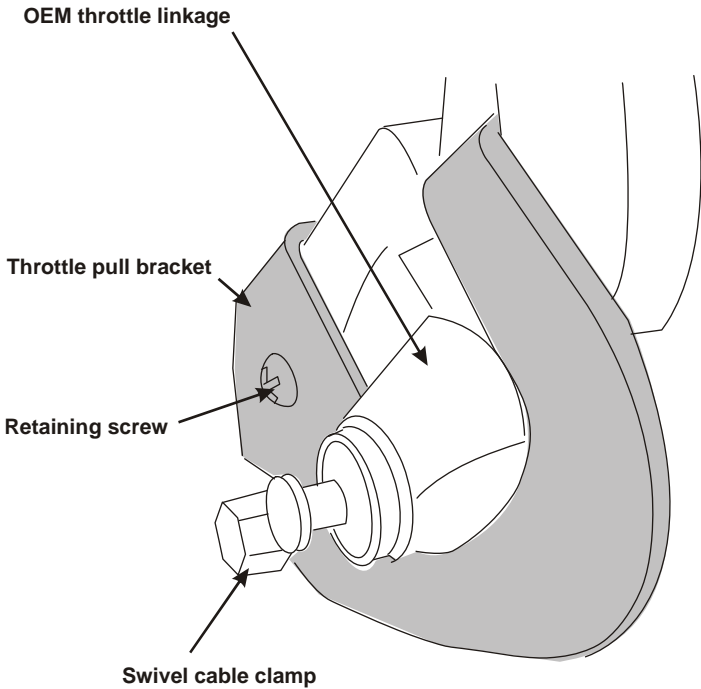

Figure 4.3
- Line up the hole in the throttle pull bracket with the hole drilled in the OEM throttle cam arm. Use the supplied self-tapping screw to secure the throttle pull bracket to the OEM throttle cam arm (Figure 4.3).